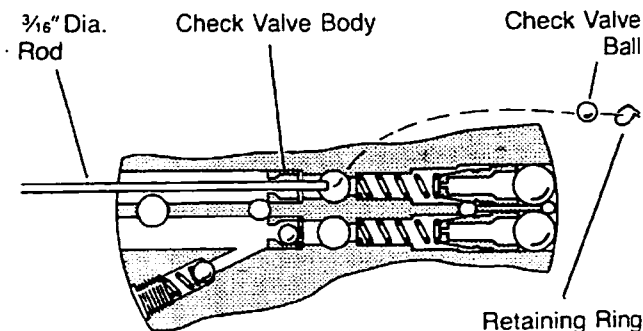

Fig. 14
**23** Insert  $\frac{3}{16}$  diameter rod through the check valve body. Tap the rod against the (see Fig. 14) check valve ball to dislodge the retaining rings. Repeat for the second check valve ball and ring. Shake dislodged rings and balls out the large port area of pintle journal.